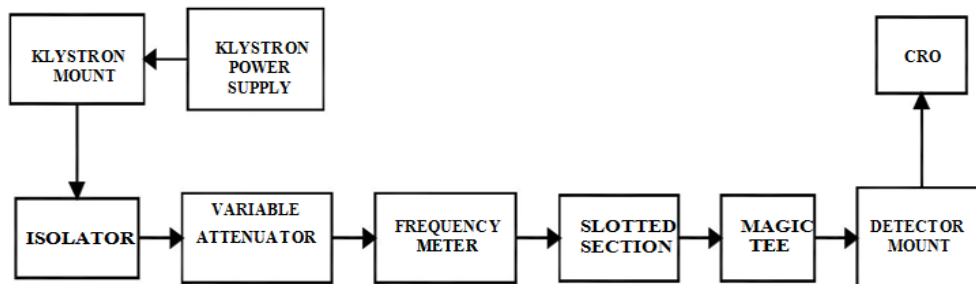

Fig 2: For Coupled / Isolated Power Measurement
1. Connect the components and equipment as shown in fig. 2